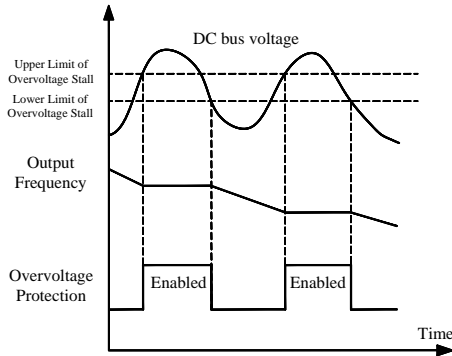

Figure 7-35 Overvoltage Stall Protection
- If overvoltage stall protection is enabled, inverter will stop deceleration temporarily and remains output frequency unchanged, and then energy feedback stops. Until DC bus voltage drops and be lower than lower limit of overvoltage stall voltage, deceleration will start again. See Figure 7-35 for overvoltage stall protection at deceleration.